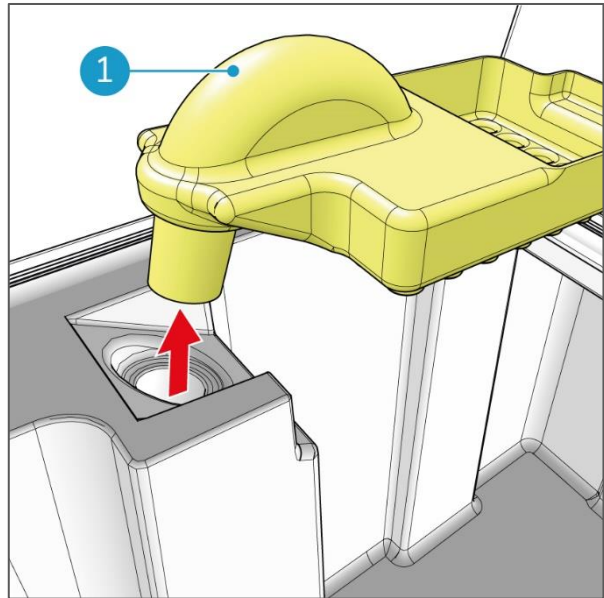

Figure 73
8. Remove the recovery water inlet (Figure 73, pos 1).